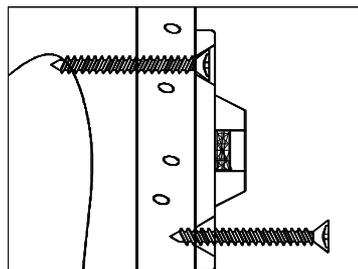
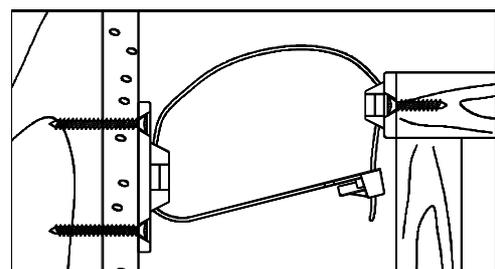

Figure 2
Figure 3
3. Attach the right side panel (C) to the center shelf (D) and bottom rail (E) by aligning the pre-drilled hole on the side with exposed wood dowel on the shelf and rail and using bolt (c) (as shown in Fig. 3) and bolt (a) and curved washer (b) (as shown in Fig. 4). Securely tighten all bolts with Allen wrench, but do not over tighten the bolts.
3) MOUNTING THE WALL-SIDE BRACKET: Position the wall-side bracket along the selected stud mark so that it will be adjacent the furniture-side bracket when the furniture item is moved to its final position. The wall-side bracket should be about ONE inch lower than the furniture-side bracket (See Figure 3). Use the TWO Long screws to secure the wall-side bracket to the wall. Remember to position the wall-side bracket vertically so that both screws will engage the selected wall stud (See Figure 2).